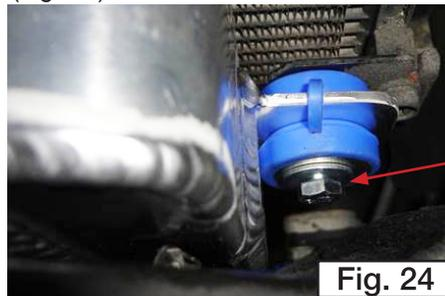

Fig. 24
24. Insert the top two M6 x 30mm bolts with a washer into the blue rubber grommets before placing the heat exchanger into the vehicle (Figs. 24 & 25). Bolt the heat exchanger onto the condenser in the factory location, the black bracket on the condenser may have to be loosened to allow adjustment for the heat